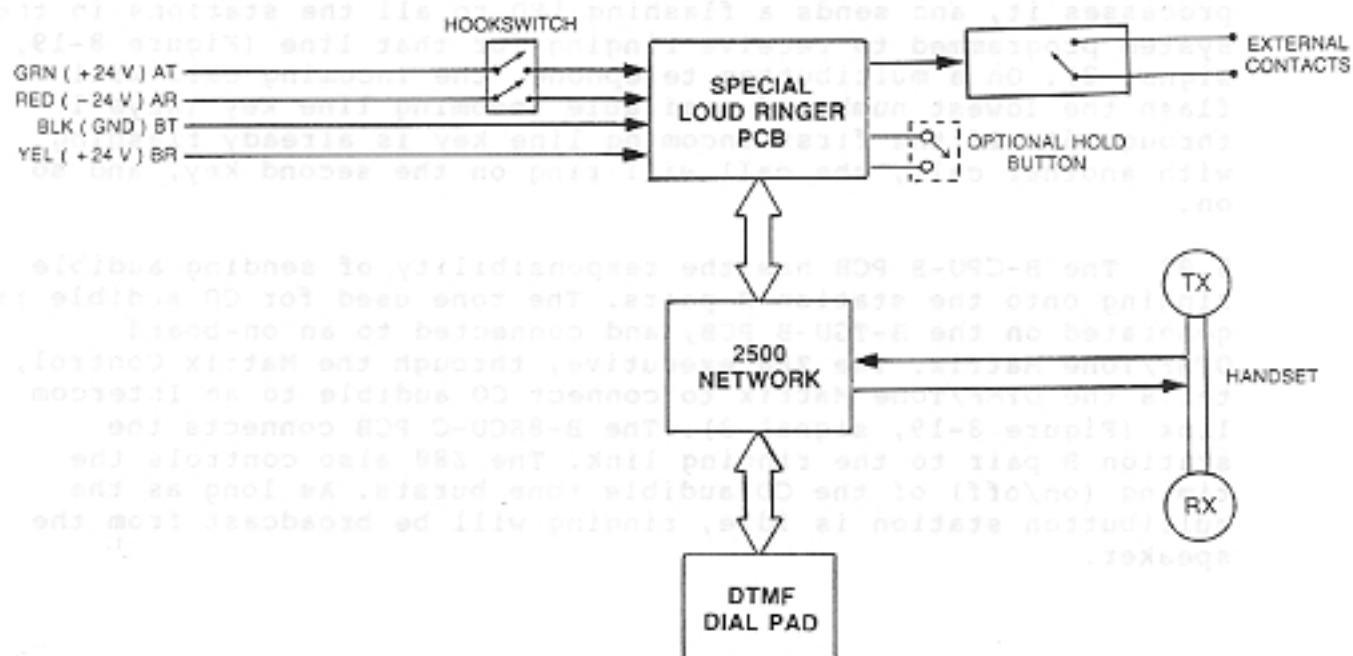

Figure 8-18 SINGLE LINE ( 2500 TYPE ) TELEPHONE BLOCK DIAGRAM, TCX-128
4.22 Standard single line (2500 type) telephones (Figure 8-18) may be connected to the TCX-128. These telephones must be equipped with special ringers and must be connected to a port on a B-8SLU-B PCB in the KSU.